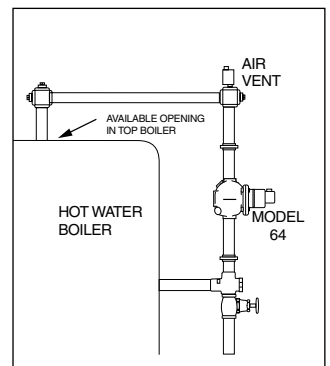

Figure 2
**Figure 2.** If there is a tapping available on the top of the boiler connect the upper equalizing pipe to it. **NOTE:** During initial filling or after blow down the upper equalizing pipe and possibly the 64 control will have an air pocket. Connect a vent or bleed valve on the top of the vertical equalizing pipe. If the Test-N-Check (TC-4) valve is used the vacuum breaker can be used to bleed the air pocket.